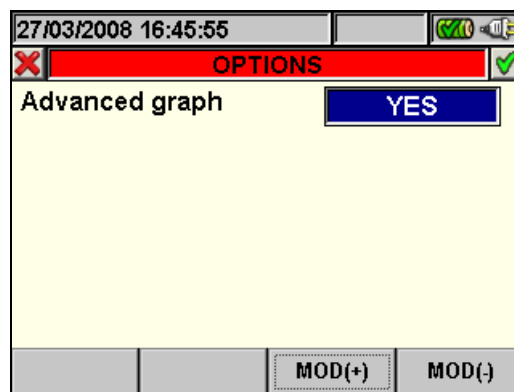

Fig. 101: Options (Advanced graph)
- **F4** key (or **OPTIONS** item on the display) to access the page for the activation of the "Advanced graph" (Fig. 101)
2. Press the **F4** key (or the **OPTIONS** item on the display) to access the page for the activation of the Advanced graph (Fig. 101).